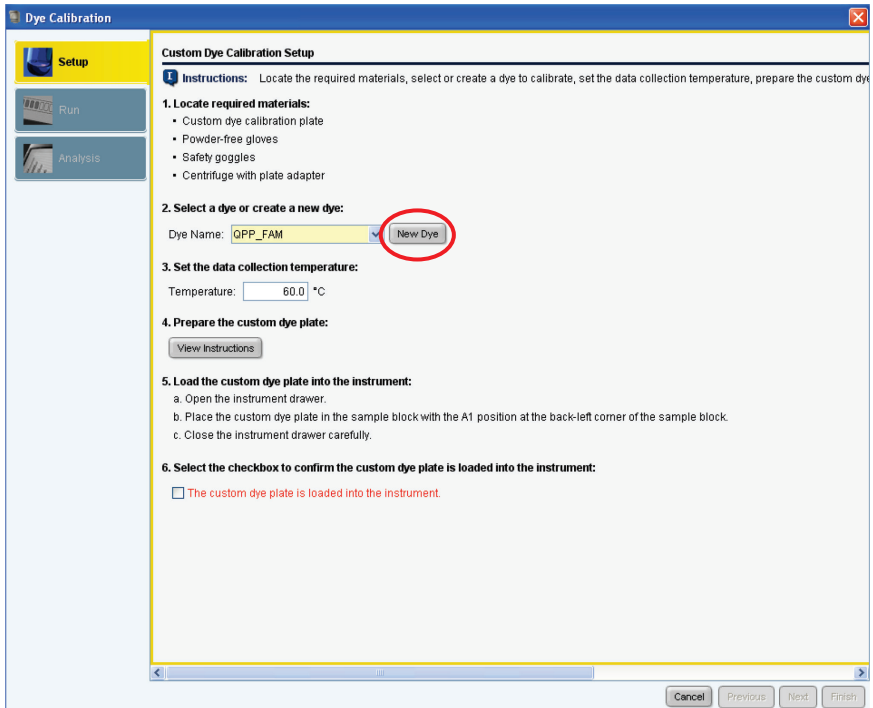

Figure 4. Selecting New Dye calibration.
14. Select **New Dye** in the **Dye Calibration** window (Figure 4).